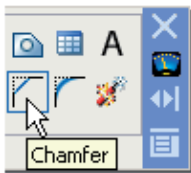

Fig. 5.41 The **Chamfer** tool icon from the **2D Draw control panel**
2. Call **Chamfer** – either *click* its tool icon in the **2D Draw control panel** (Fig. 5.41), or left-click on its tool icon in the **Modify** toolbar, or *pick Chamfer* from the **Modify** drop-down menu, or *enter cha* or *chamfer* at the command line which then shows: